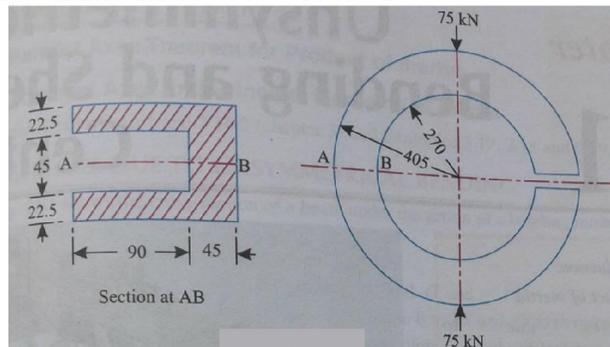

Fig. 1
4. An open ring having channel section as shown in fig.1 is subjected to compressive [14M]